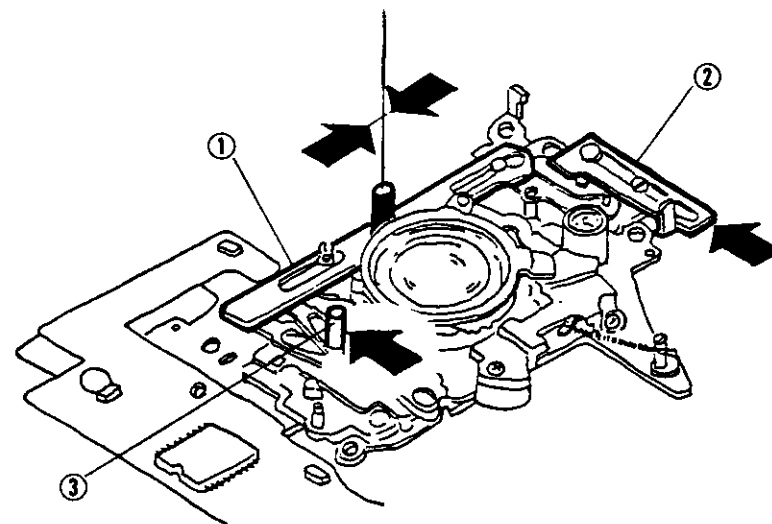

Fig. 20
- (1) Put the AE FPC holder (P. 22 No. 19) to the bottom part of the Body.
- (2) Set the Parts on the Shutter ass'y as follow (Fig. 20).
- ① Focusing lever (No. 1) Middle click position.
- ② ISO lever (No. 2) ISO 100 position